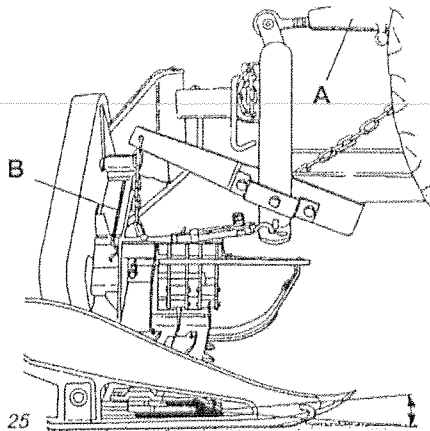

Fig. 25
- Adjust inclination of the cutting arm teeth using tie rod (A, Fig. 25).
- Remove tie rod (B, Fig. 25) from the cutting arm and secure it in its seat.